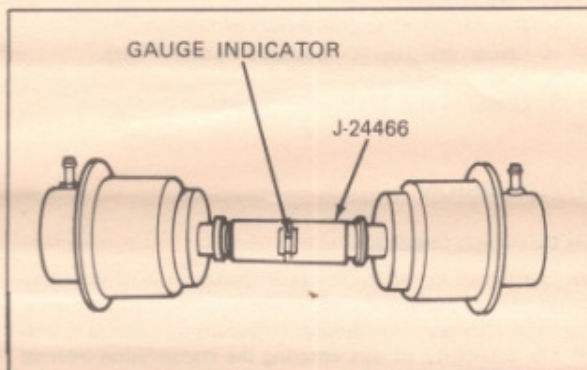

Figure 45 — Checking Modulator
2. Install the modulator in question on the opposite end of the gauge (see figure 45).